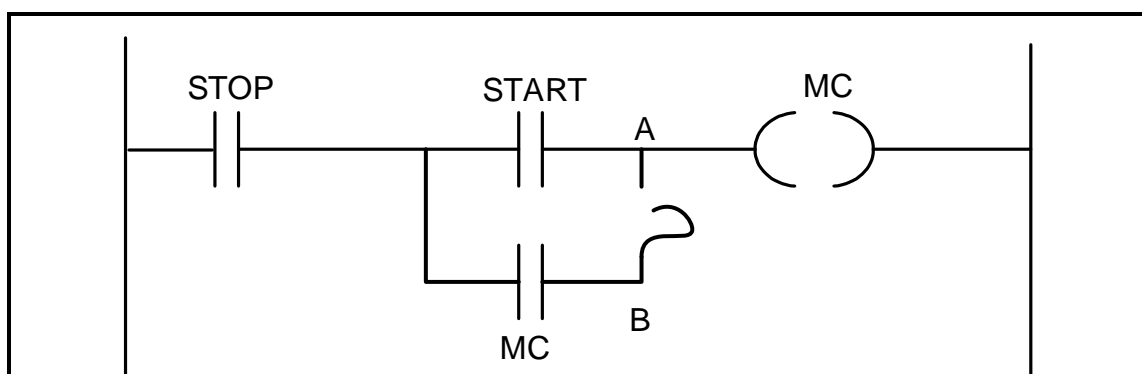

FIGURE 6.7: LADDER LOGIC CIRCUIT
- 6.7 The circuit in FIGURE 6.7 below is programmed with a fault, as shown between points **A** and **B**. Explain the effect that the fault will have on the operation of the circuit.